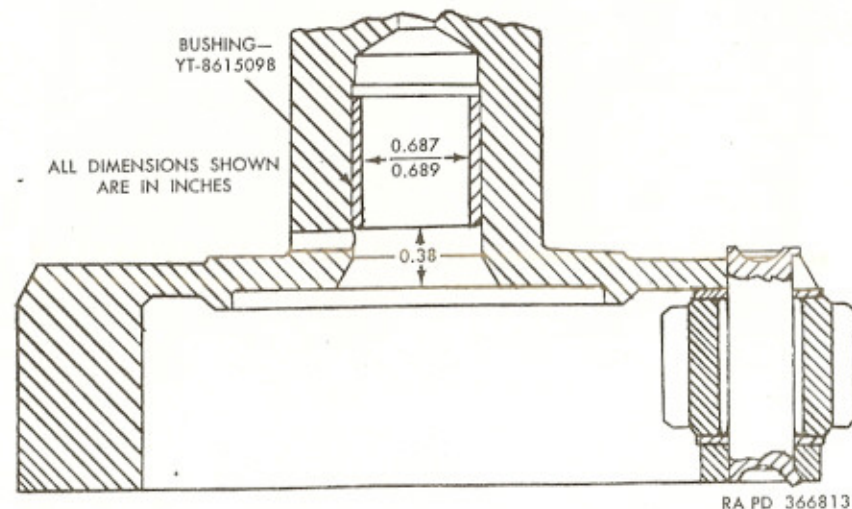

Figure 136. Sectional view of output shaft and bushing.
(2) Output shaft assembly (C).
- (d) Check inside diameter of input shaft pilot bushing in output shaft bore (fig. 136). If wear is evident, remove bushing from shaft by threading a tap of correct size into bushing; then pull tap and bushing out of shaft. Press new bushing into shaft and finish to dimensions shown in figure 136.